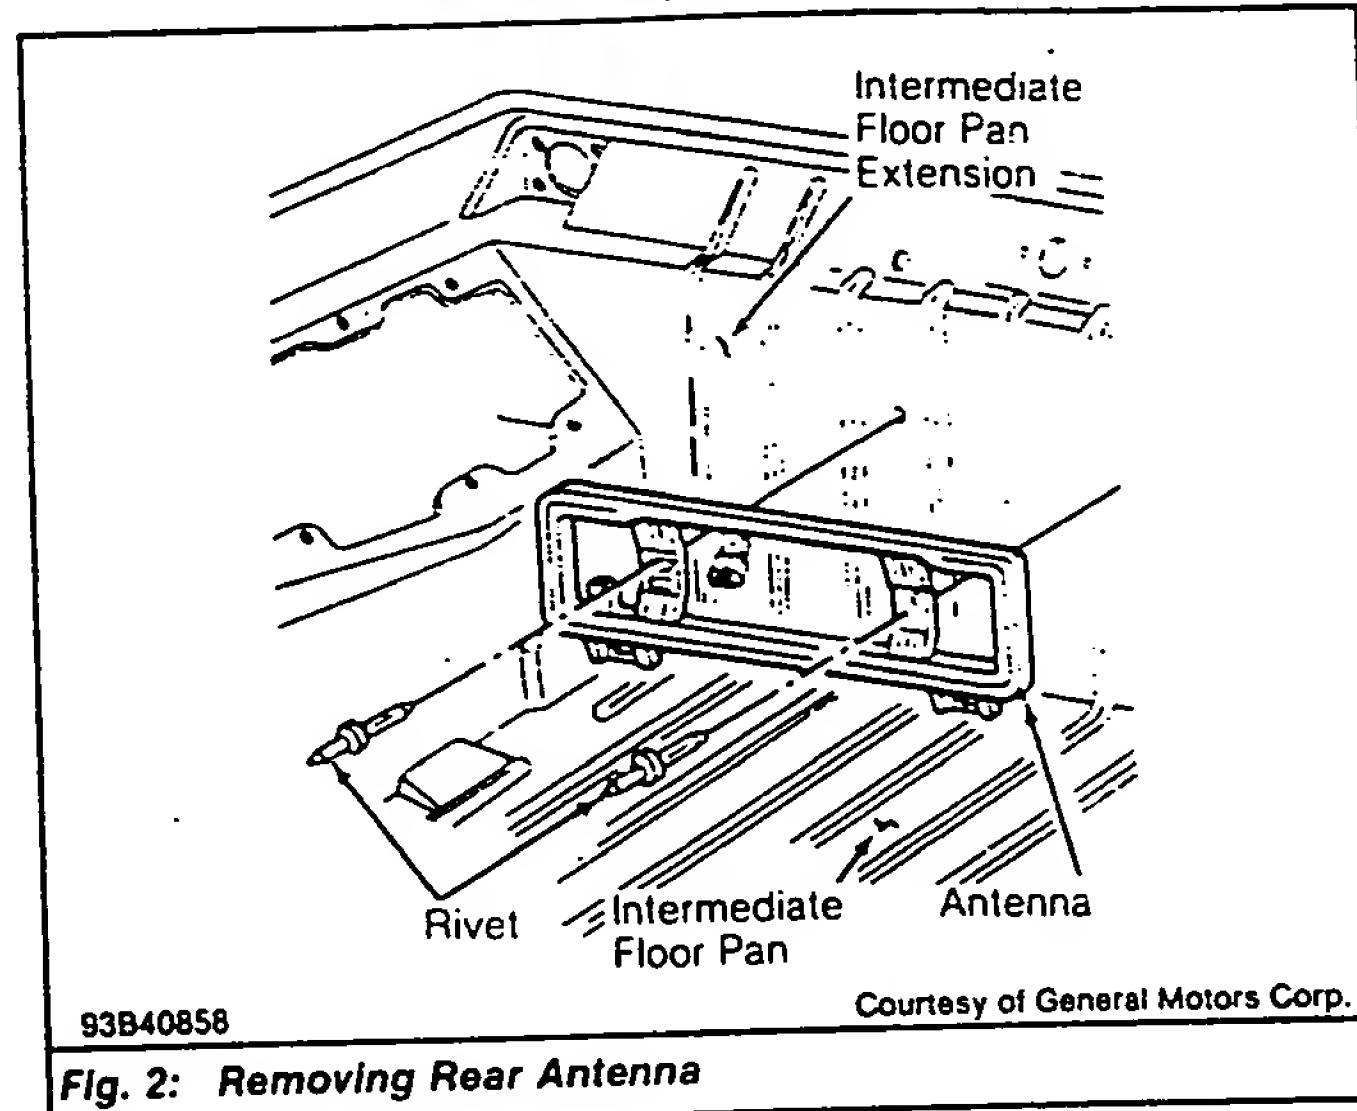

Fig. 2: Removing Rear Antenna
**Removal & Installation** – Open rear lift window hatch. Remove rear floor stowage compartment handle. Separate hook and loop fastener from stowage compartment doors and move carpeting out of way. To access antenna, fold down carpet insulator. Disconnect electrical connector. Drill out mounting rivets. Remove antenna by pulling firmly on each adhesive pad. See Fig. 2. To install, reverse removal procedure.